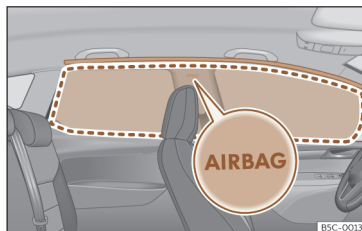

Fig. 33 Location of head-protection airbags.
Head-protection airbags are on both sides of the passenger compartment, above the doors >>> Fig. 33 and their location is indicated with the word "AIRBAG".
The framed area is covered by the head-protection airbag when it is deployed (deployment area) >>> Fig. 33. Therefore, objects should never be placed or mounted in this area >>> △.
- Ensure that children are correctly seated in their seats and that their heads are not in the deployment zone of the head airbags >>> Fig. 33, as deploying airbags could hit them and cause serious injury.